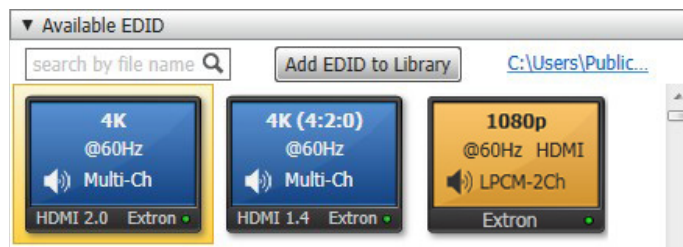

Figure 34. Available EDID Panel
- **Available EDID** — Displays the available EDID located on the connected unit or the local PC (see figure 34).